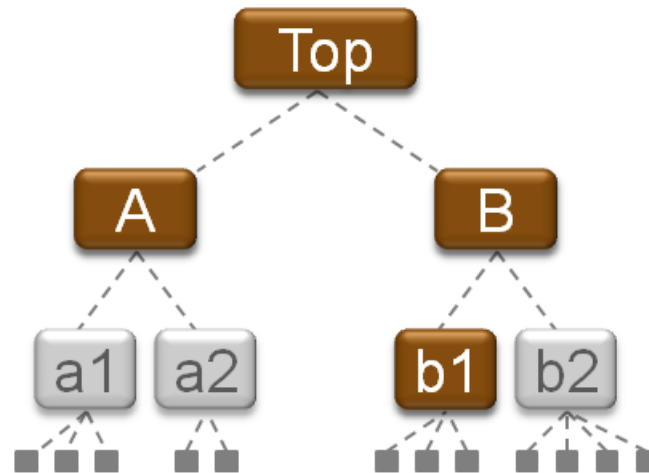

Figure 2: Searching the Design Hierarchy
As an example, Figure 2 shows a hierarchical design where the modules A and B are instantiated at the top-level. Module A includes the a1 and a2 hierarchical instances, and module B includes the b1 and b2 hierarchical instances. Each of a1, a2, b1, and b2 has leaf cells (unisim instances) inside, as indicated in the figure.
The following example is based on Figure 2, page 38 which shows a purely hierarchical netlist.
The `-hierarchical` search is equivalent to manually performing a search at each level of the hierarchy, using the `current_instance` command to set the search scope to a particular hierarchical instance, and return all the objects that match the specified name pattern at that level. The following Tcl code, based on Figure 2, page 38, illustrates this manual process:
**IMPORTANT:** When `-hierarchical` is used with `-regex`, the specified search string is matched against the full hierarchical name, and `B/. *` will return all cell names that match this pattern. For example, based on Figure 2, `get_cells -hierarchical -regex B/. *` returns all the cells below the block B. See the *Vivado Design Suite Tcl Command Reference Guide (UG835)* [\[Ref 1\]](#) for more information on `-regex`.